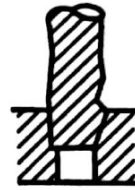

Fig. 2.22 : Core Drilling
12. Core Drilling : It is the operation of enlarging an already existing hole with the help of a drilling tool as shown in fig. 2.22.